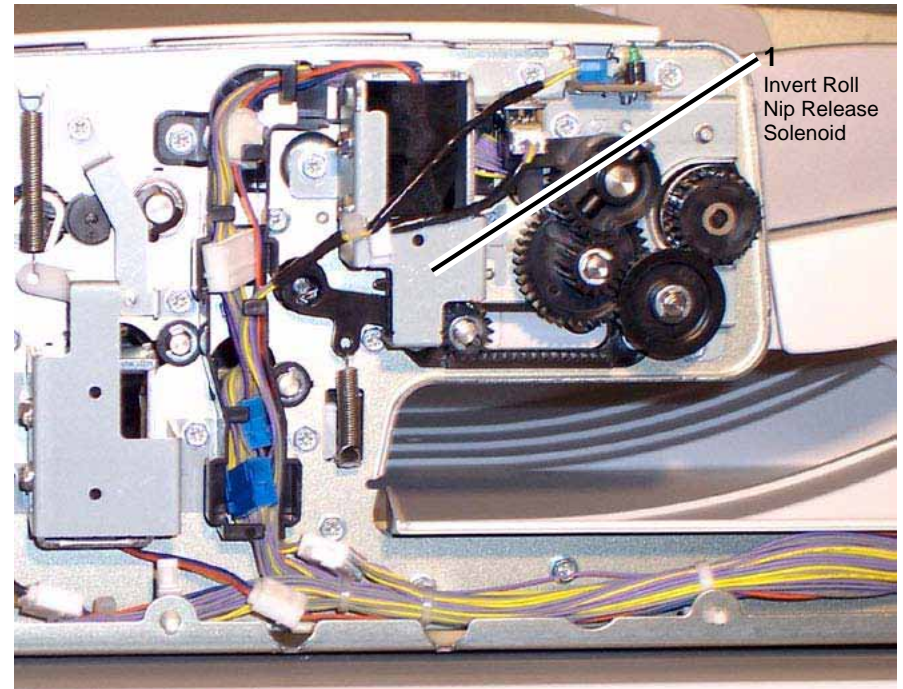

Figure 4 Invert Roll Nip Release Solenoid
17. Remove the Invert Roll Nip/Release Solenoid. PL 14.11 Figure 4
- c. Loosen the screws (2).